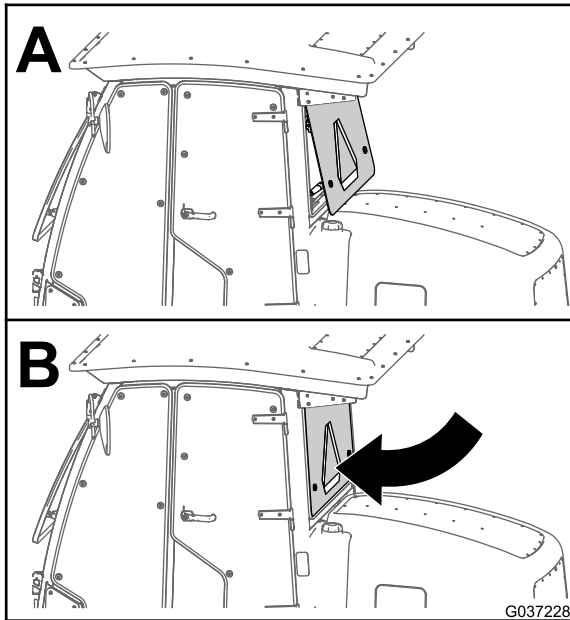

Figure 72
1. Close the rear window of the cab (Figure 72).